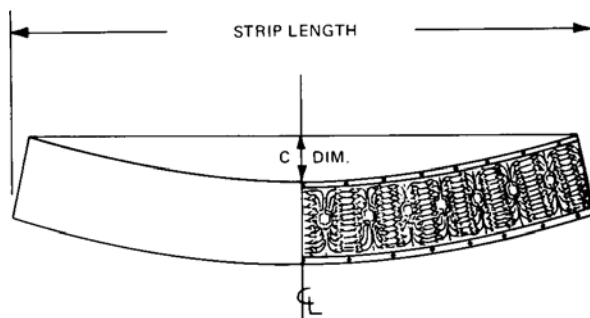

**Figure 1**
*camber* — Curvature of the leadframe strip edge (see Figure 1).